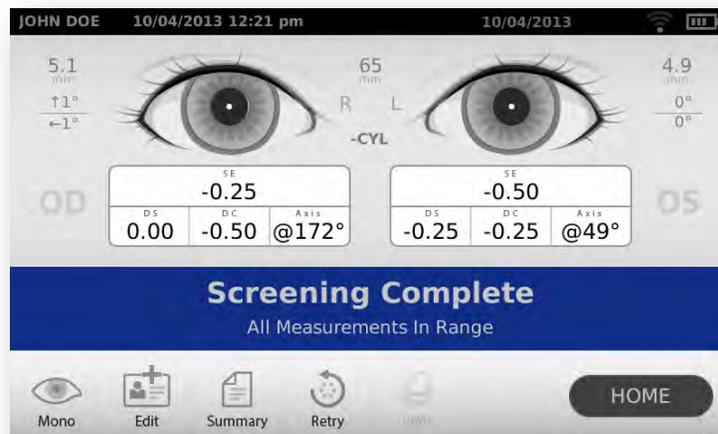

Figure 9
- The results screen will appear at the end of the screening process (Figure 9).